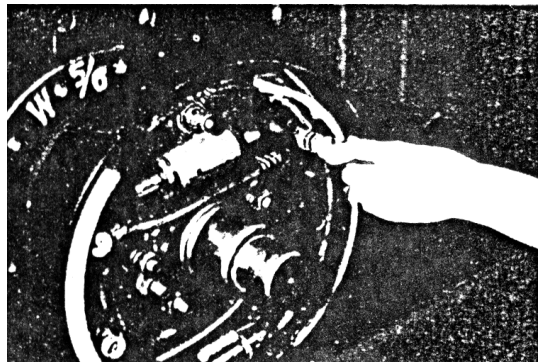

Fig. 8-11
(3) Remove three hold-down springs. (See Fig.8-11)